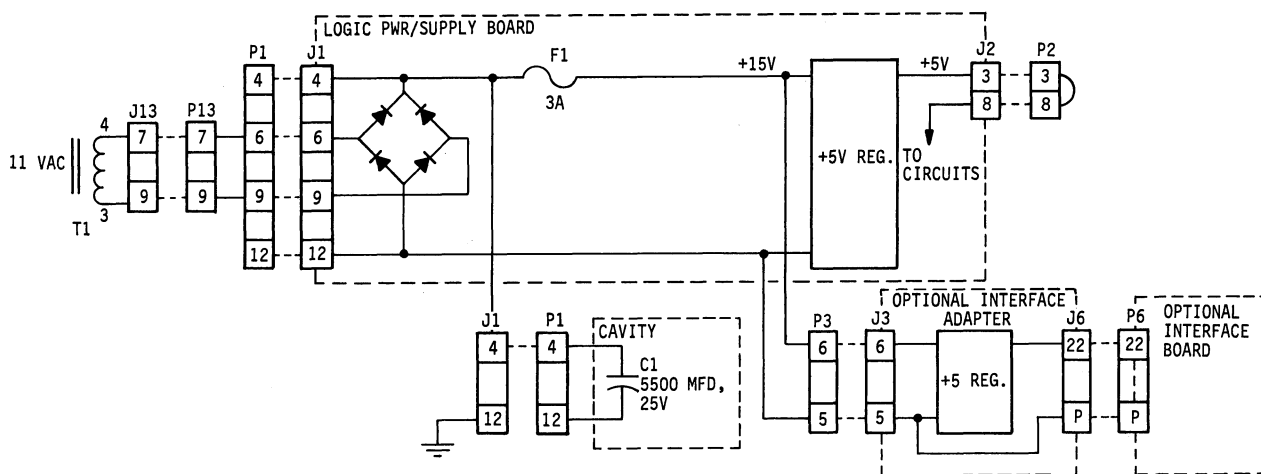

Figure 4-16. +5V REGULATOR INTERCONNECTION DIAGRAM
4.9.1 +5V REGULATOR (Figure 4-16)